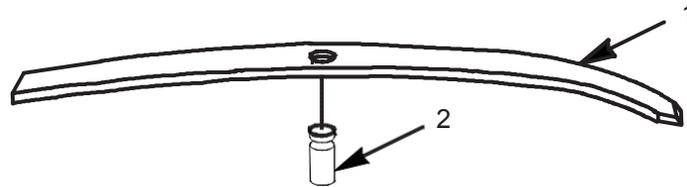

Figure 32. Ejector, Grooved Pin.
7. Position ejector (Figure 32, Item 1) with cartridge ejector end to the right and insert grooved pin (Figure 32, Item 2) from the rear side of the ejector.